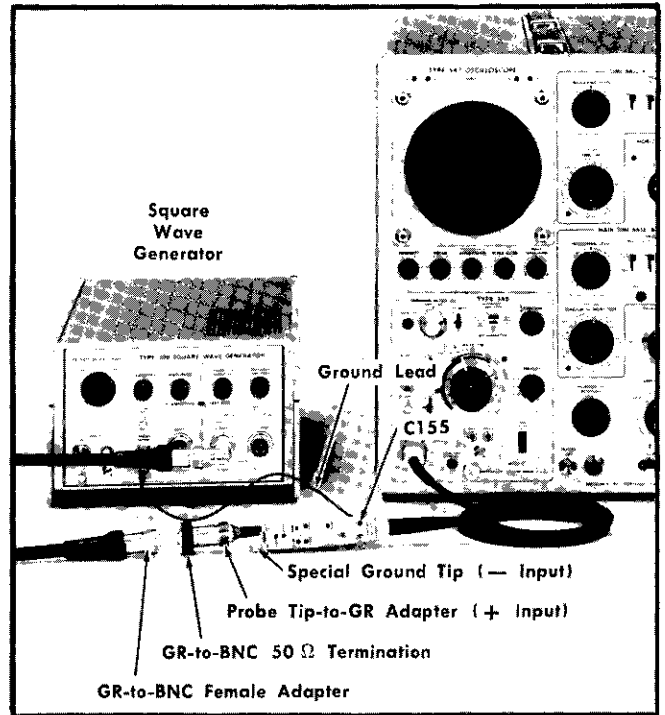
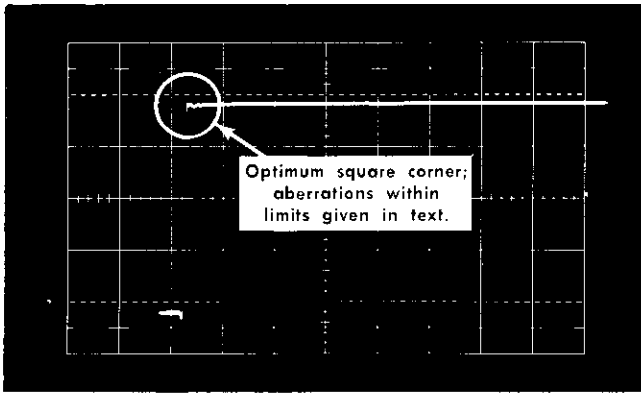

Fig. 6-9. Equipment setup for transient response adjustment, step 6.
Fig. 6-10. Transient response waveform, step 6. Sweep rate 0.1 μ s/div; deflection factor 20 mV/div.
6. Adjust Transient Response (C155) ①
a. The preliminary control settings apply. The equipment setup and adjustment location appear in Fig. 6-9.
- i. Adjust the Oscilloscope triggering and horizontal position controls to center the display as shown in Fig. 6-10.
l. ADJUST—C155 (Fig. 6-9) for optimum transient response as exhibited by optimum squareness at the upper leading corner of the square wave. Rounding, overshoot and tilt should be within the following values. Use Fig. 6-10 as a guide.